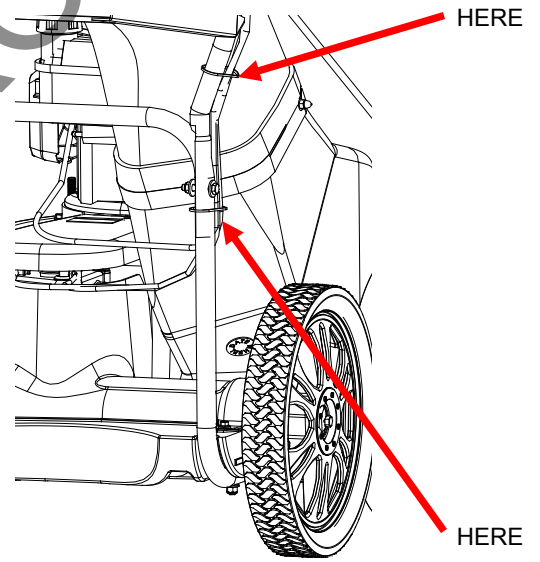

Fig. 6
9. Install cable ty wraps. (See Fig. 6 next page)